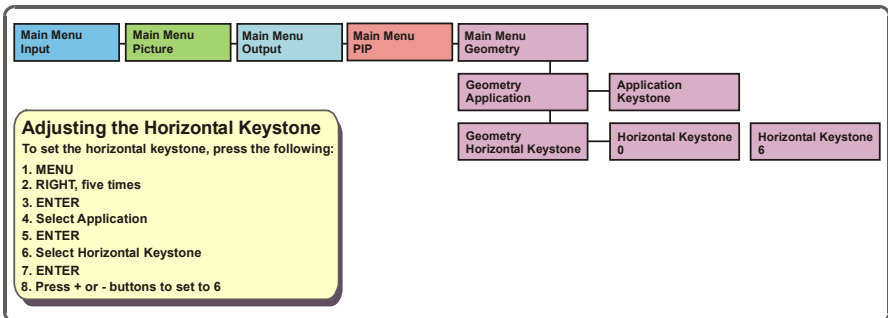

Figure 28: Example of How to Use the LCD Display
To keep the picture rectangular. Figure 28 illustrates how to adjust the Keystone via the OSD Menu
2. Press the appropriate front panel OSD buttons (as defined in Figure 28).